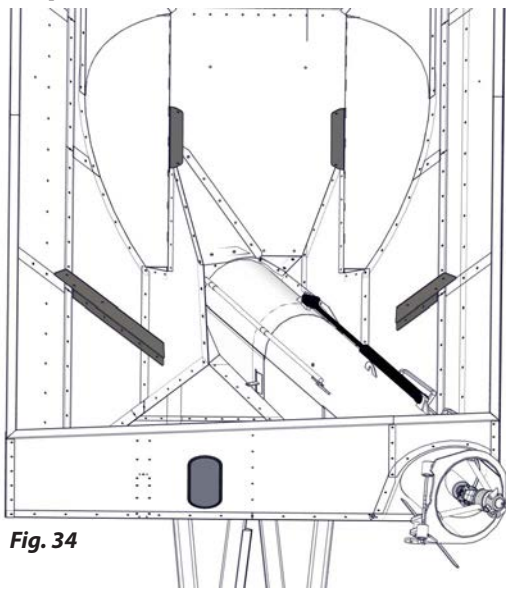
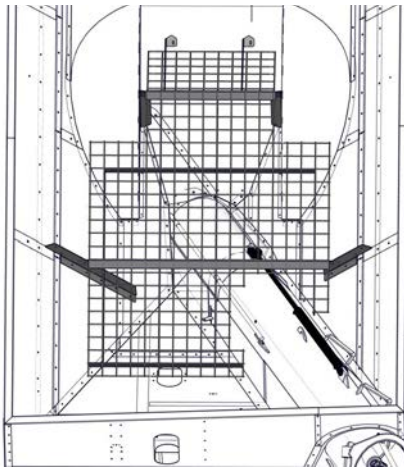

Fig. 34
Fig. 35
- Attach the 4 screen braces as shown in fig. 34.
- Use (19) M10 x 25 hex bolts and (19) M10 hex nuts for the braces.
- Attach both screens to the braces as shown in fig 35.
- Use (8) M10 x 25 hex bolts and (8) M10 hex nuts.